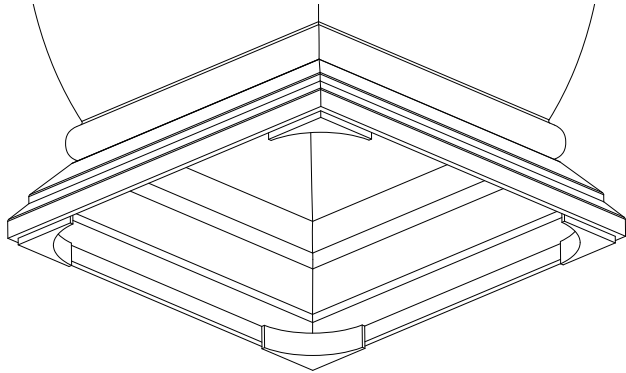

Figure 4
3. Remove LP gas tank (Figure 4).